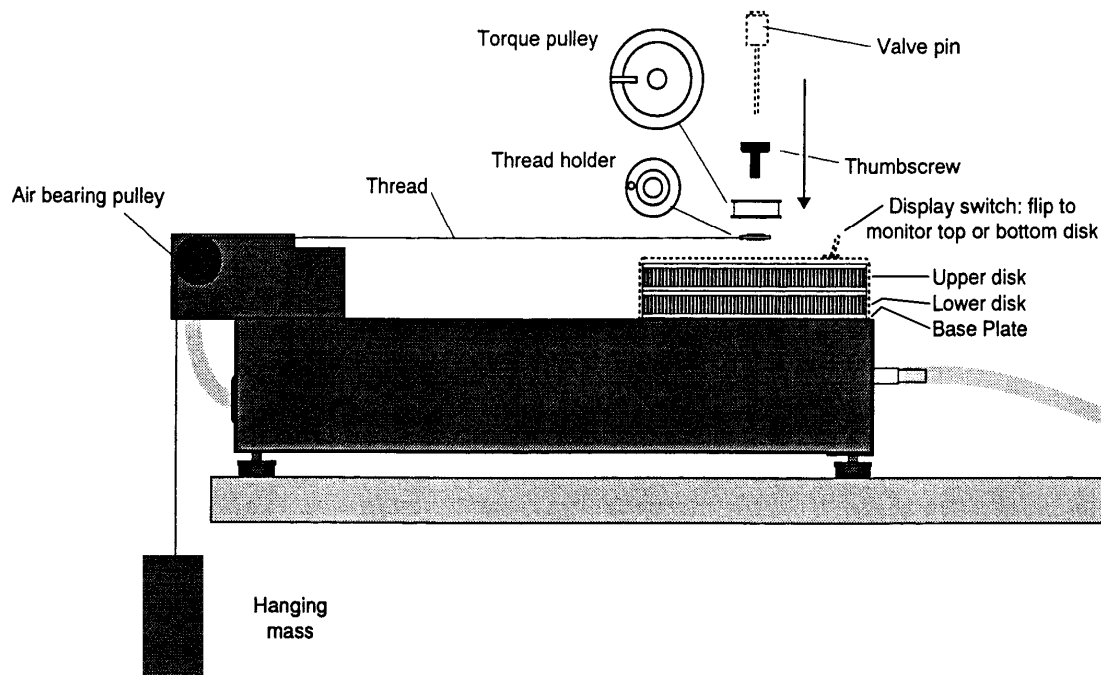
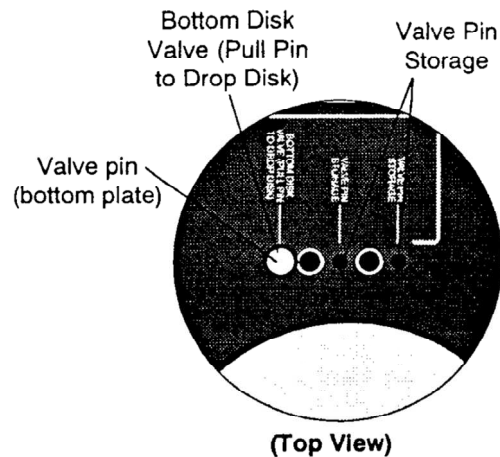

Fig. 3. Side view of rotational dynamics apparatus
Fig. 4. View of the pin storage area.
2. Arrange the apparatus (see Fig. 3 below) so the air-bearing pulley extends over the edge of your lab table. Check with your TA if you are unsure.
1. The two disks can spin independently or together, or the upper disk can spin while the lower disk does not (see Fig. 3). These options are controlled using the two valve pins that are provided with the unit. When not in use, these pins can be stored in the valve pin storage holes on the top of the base (see Fig. 4). Start with the pins in the storage holes.
4. Refer to Fig. 3 and tie one end of the thread to the hole in the thread holder. Place the thread holder in the recess of the small torque pulley, with the thread passing through the slot in the pulley. Then use the thumbscrew to attach the pulley to the top of the rotating disk, with the flat side of the pulley facing up, so the thread holder is underneath the pulley. Tighten the thumbscrew so the pulley is secure. *Make sure that the string is not caught under the pulley!* Weigh the “20 g” mass.